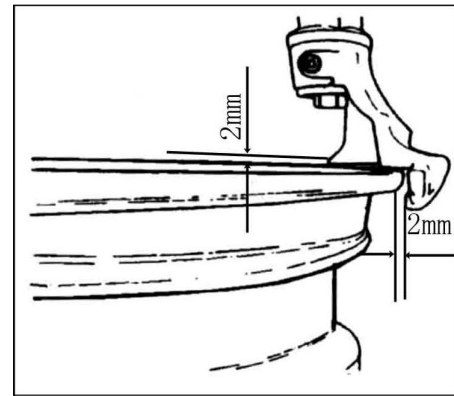

Fig. 19
- Position the hexangular shaft (Fig. 2-3) to the working position to make the demount tool close to the rim of the wheel. And use the hand wheel (Fig. 7-2) to push against the rocker arm and then use the lock handle (Fig. 2-12) to lock. The demount tool will automatically move a little of gap (Fig. 19).